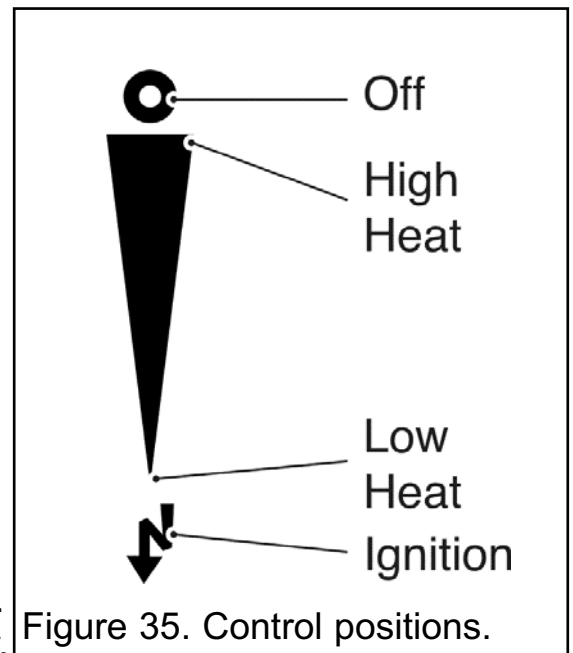

Figure 35. Control positions.
The control position markings on the fascia are shown in figure 35.
1. Gradually slide the button up to increase the burner setting. The burner should be at its maximum setting at the high heat position shown in figure 35. You should feel a check to the button movement at this position.